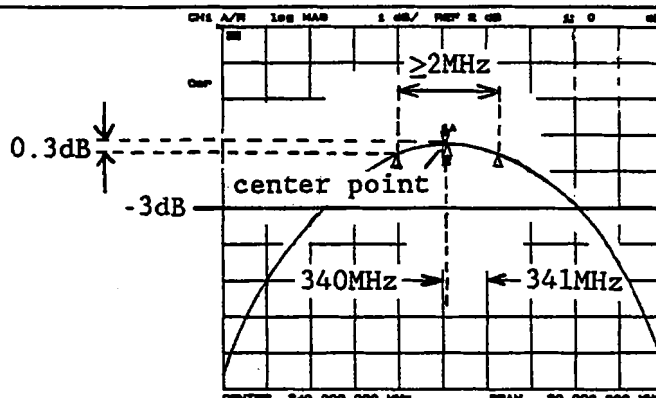
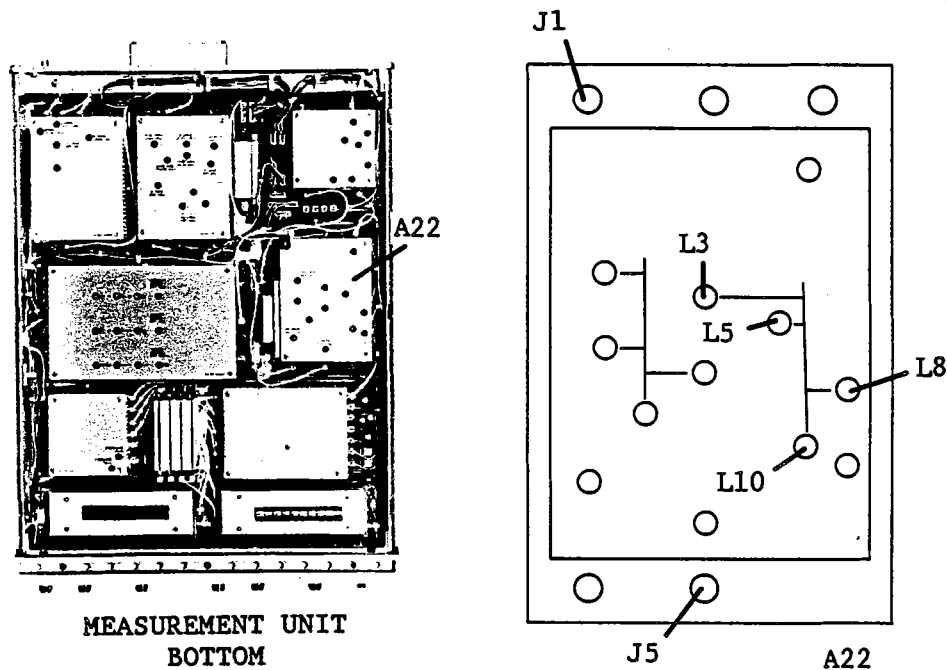

Figure 3-61. 340 - 500 MHz Voltage Tuned BPF Adjustment Example
Figure 3-66. Receiver First IF Converter 246 MHz BPF Adjustment Locations
1. Connect the equipment as shown in Figure 3-61. Connect Mixer R INPUT cable to A22J5 instead of A22J4. See Figure 3-66 for the locations of A22J1 and A22J5.